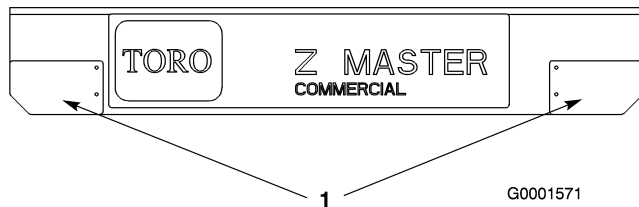

Figure 1
1. Position the template (Figure 1) on either the left or right side of the front of the footrest.